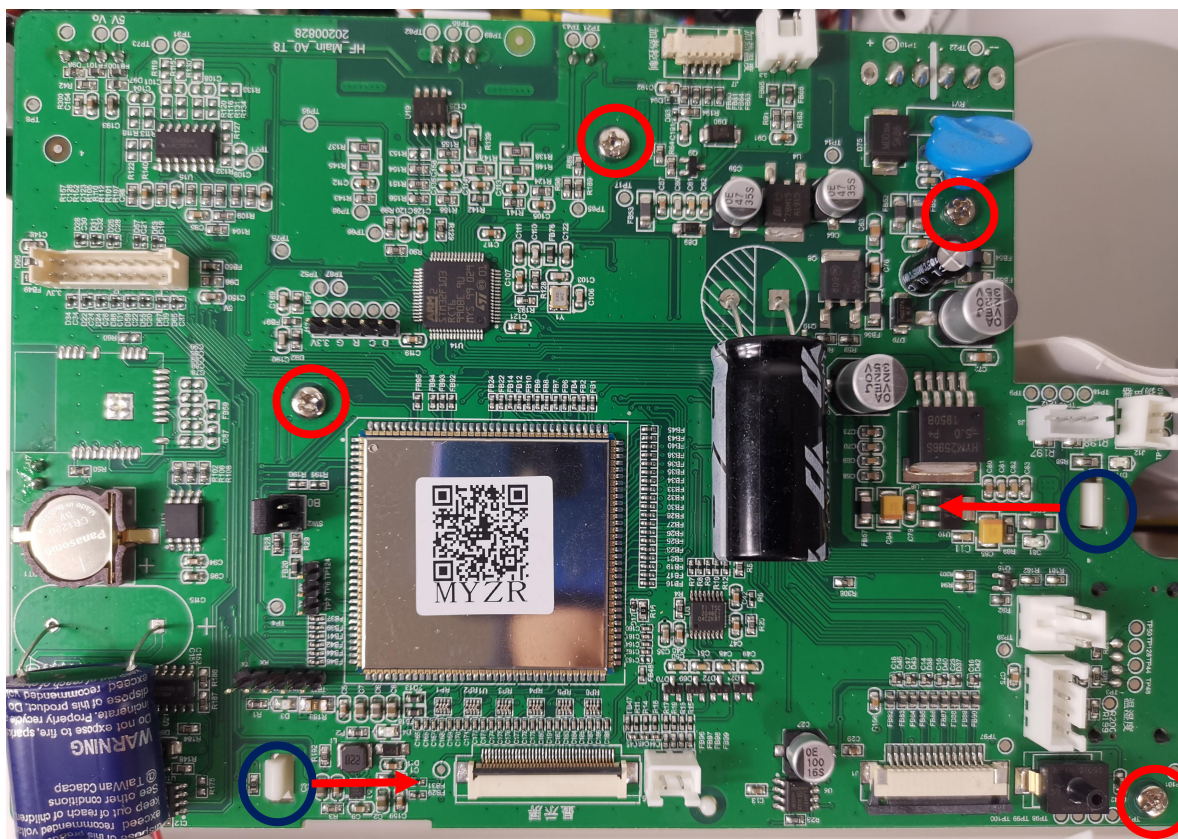

Figure3-3-4
② Use a Phillips screwdriver to remove the 4 screws in the red circle in Figure 3-3-4; push the buckle in the blue circle in the direction of the arrow shown, and carefully remove the main PCBA from the silencer.